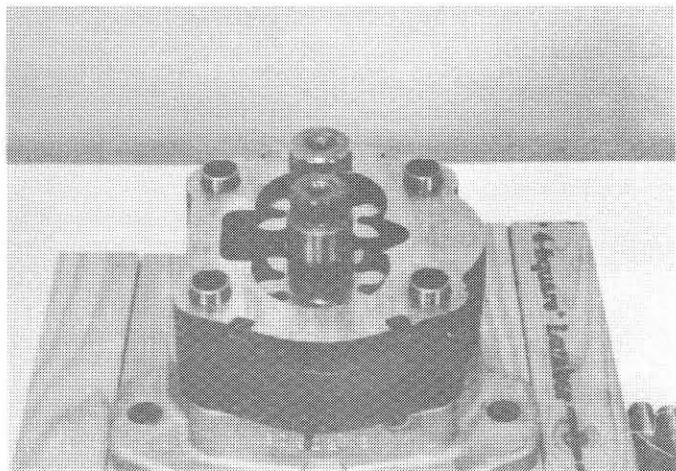

FIG. 24
34. Install drive gear (14) in the gear bore nearest to the matching mark. Install the idler gear (15) in the opposite bore. (Fig. 24)